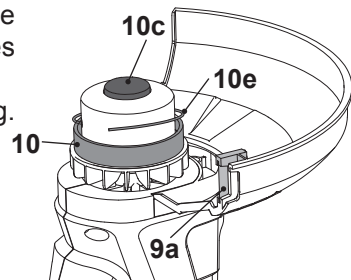

Fig. 13
1. Tap the bumper (10c) on solid ground and the trimmer head (10) will release the trimming lines (10e).
2. Excess lines will be cut by the knife (9a) (Fig. 13).